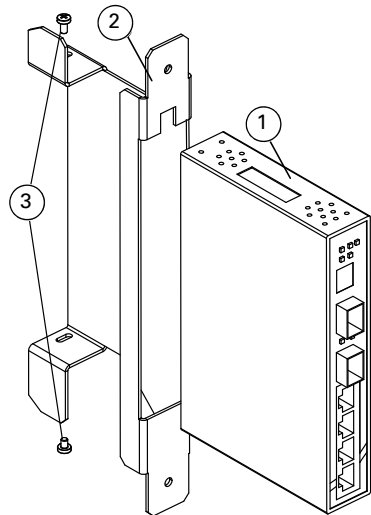
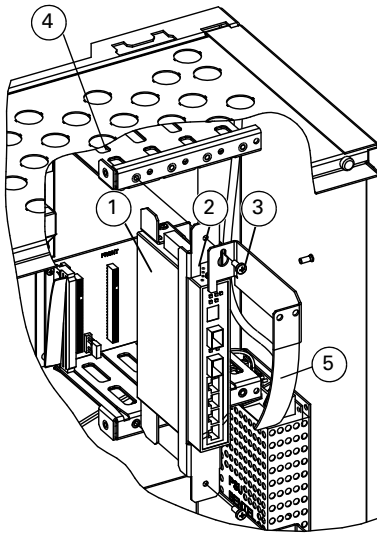

Fig. 1: Mounting the Ethernet switch to the slot cage holder
Fig. 2: Mounting the Ethernet switch and slot cage holder into the slot cage.
- 1 Slide the Ethernet switch (refer to item 1 in Fig. 1) into the slot cage holder (item 2).
- 2 Align the back of the Ethernet switch with the back of the slot cage holder and secure it with the screws supplied (item 3).
- 3 Prepare the power supply cables and feed them through the top of the slot cage holes (refer to item 4 in Fig. 2). Connect the wires into the terminal block on the Ethernet switch. Observe the correct polarity. If you require redundant power supply wiring, follow the same procedure.
- 8 Slide the slot cage holder (refer to item 2 in Fig. 2) into the slot cage in the panel.
- 9 If the switch is a POS800, attach the fibre-optic holder (item 5) into the slot cage and secure it with screws (item 3).